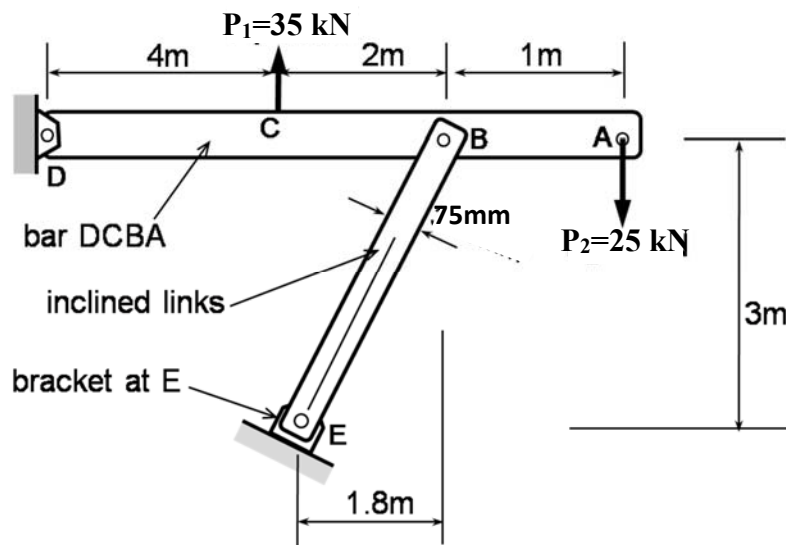

Figure 2/Rajah 2
- [b] **Figure 2** shows a beam DCBA supported by a pair of inclined links at B. The beam is supported by a pin at D and the inclined link is supported by a pinned support at E. The thickness of the beam DCBA is 30 mm. Each of the inclined link connecting B and E is made using steel with  $E=190$  GPa. The dimension of the rectangular cross-section of the inclined link is 75 mm  $\times$  20 mm. Point loads of  $P_1=35$  kN and  $P_2=25$  kN act at points C and A, respectively. Details of connection at joint B and pin support E are shown in **Figure 3**. Diameters of pins used at B and E are 15 mm and 20 mm, respectively.